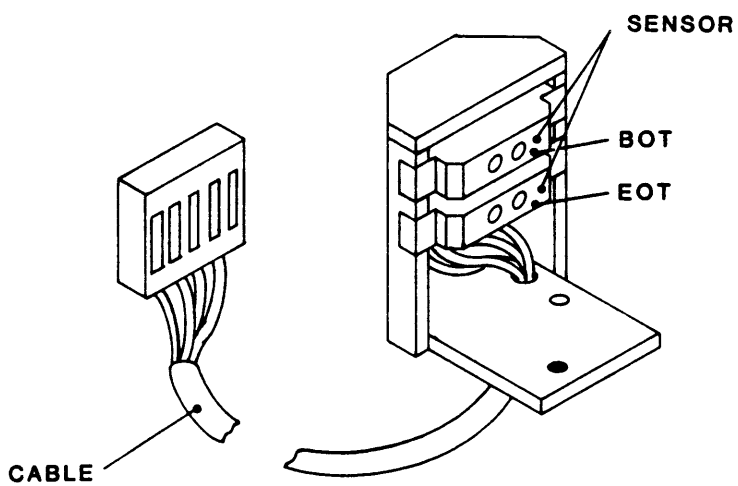

Figure 4-22 BOT/EOT Sensor Assembly
4.3.25 BOT/EOT SENSOR ASSEMBLY (Figure 4-22)